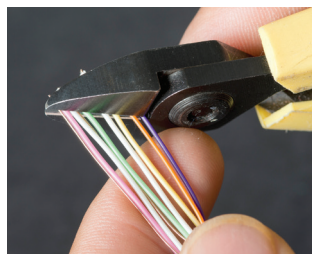
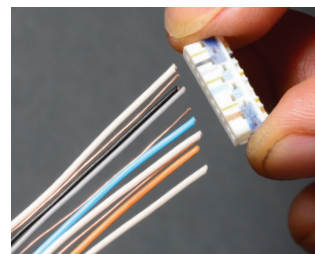

Figure 13.
Figure 14.
Step 6 Trim the twisted pairs on a diagonal (Fig. 13) to make the load bars slip on easier. Take one load bar and start inserting the wires from the first bundle (Fig. 14). The wires go in based on a designated color sequence (Fig. 15). Insert the wires and slide the blocks down until they are about 1/2" (12mm) from the base of the cable (Fig. 16).